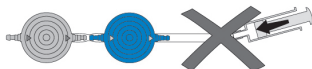

Fig. 25: Avoidance of pressurisation
- ▶ Pressurisation with a single-use syringe should be avoided both at the proximal and the distal end. (Fig. 25).